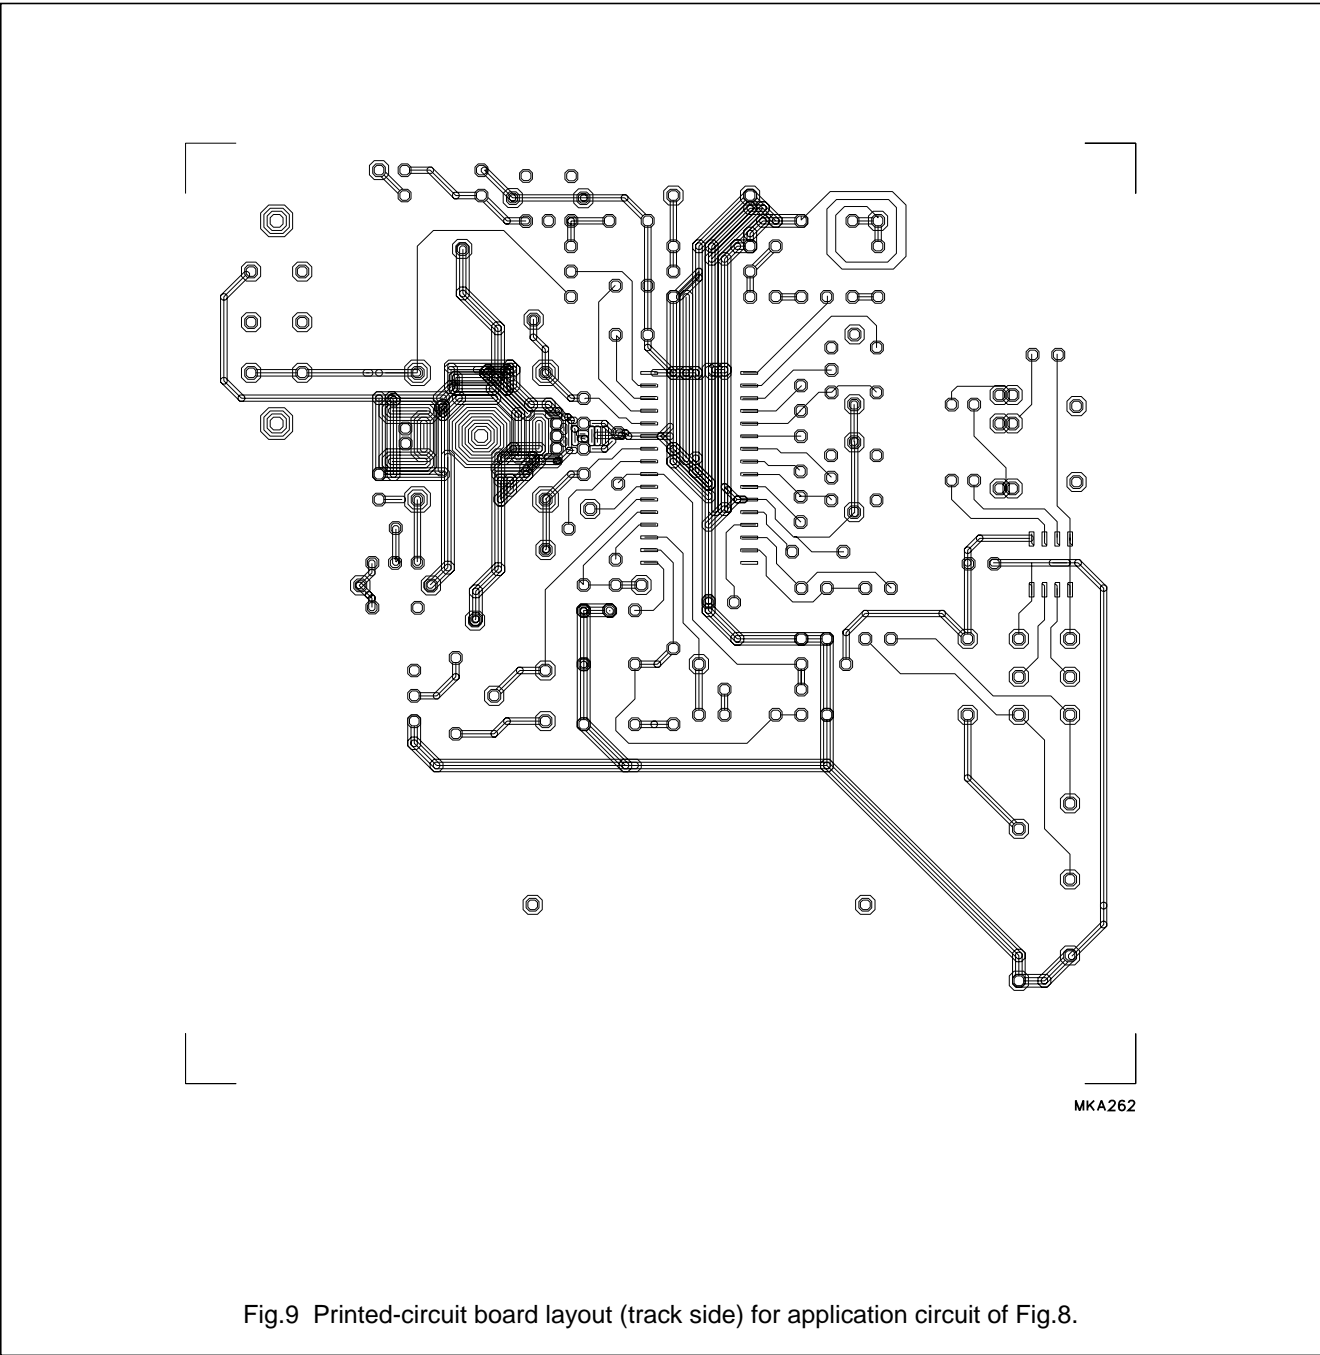

Fig.9 Printed-circuit board layout (track side) for application circuit of Fig.8.
- For an example of printed-circuit board layout: see Figs 9 and 10.